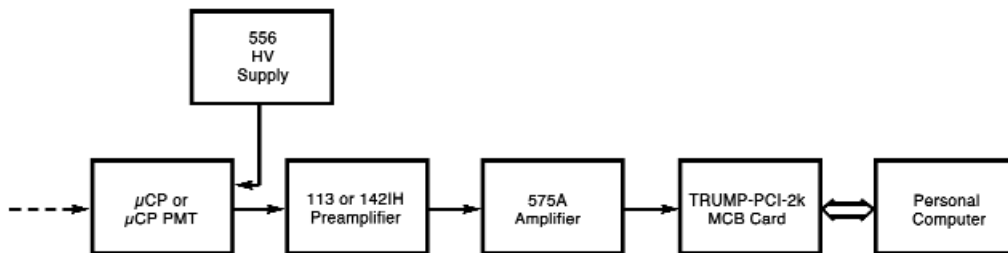
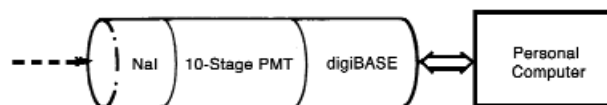

Fig. 3. Pulse-Height (Charge) Spectroscopy with a Microchannel Plate (μ CP) Detector, or a Microchannel Plate Photomultiplier Tube (μ CP PMT).
Fig. 4. Pulse-Height (Energy) Spectroscopy with a NaI(Tl) Scintillation Detector
Figures 3 through 10 show systems for pulse-height spectrometry with a variety of detector types. The following types are included:
- Microchannel plate detector (Fig 3).
- Microchannel plate photomultiplier tube (Fig. 3).
- Nal(Tl) scintillation detector (Fig. 4).
If nuclear or x-ray radiation is being detected, the pulse-height is usually calibrated in terms of the energy of the radiation. Hence the term “energy spectroscopy” is used. For other types of signal sources, the pulse height simply represents the charge deposited in the detector by the event. Consequently, the measurement process can be considered to be either “charge” or “pulse-height” spectrometry. In Figures 3 and 5 through 9, a preamplifier integrates the charge deposited in the detector, an amplifier shapes the pulses for pulse-height measurement, and a multichannel buffer (ADC plus memory) sorts the pulse heights into a spectrum (histogram of energy vs. counts). Figure 4 uses an integrated package complete